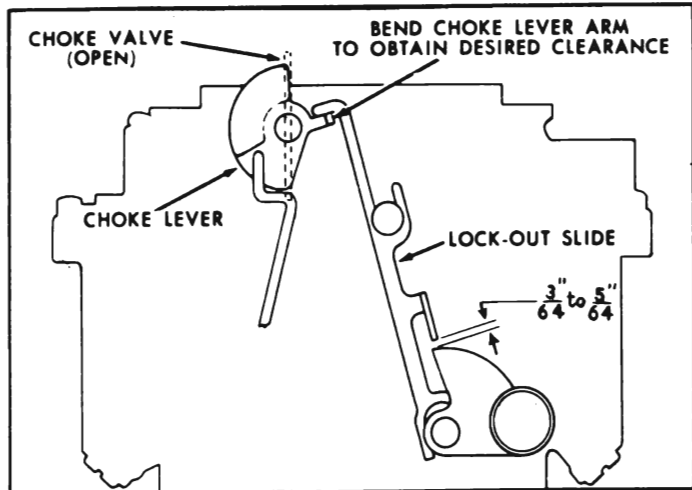

Figure 3-87—Lock-Out Slide Clearance With Choke Valve Open
10. Fully open choke valve and partially open auxiliary throttle valves. The clearance between lower end of ear on slide and top edge of auxiliary valve shaft lever should then be $\frac{3}{64}$ " (.047") to $\frac{5}{64}$ " (.078"). Bend choke lever arm to obtain this clearance. See figure 3-87.